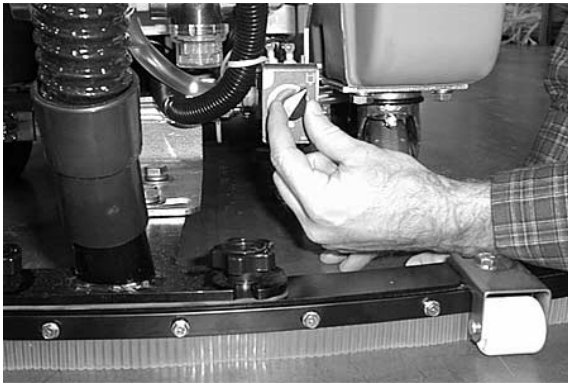

FIG. 17
1. Observe amount of solution flow on floor. To increase or decrease water flow, adjust solution control knob located at rear of machine (Figure 17).